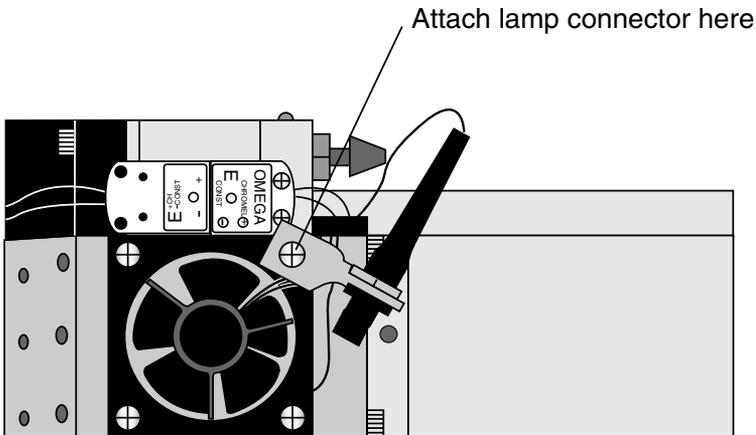

Figure 2-9. Attach the lamp connector to the fan shroud.
- c. Remove one fan shroud screw and attach the lamp connector (Figure 2-9).